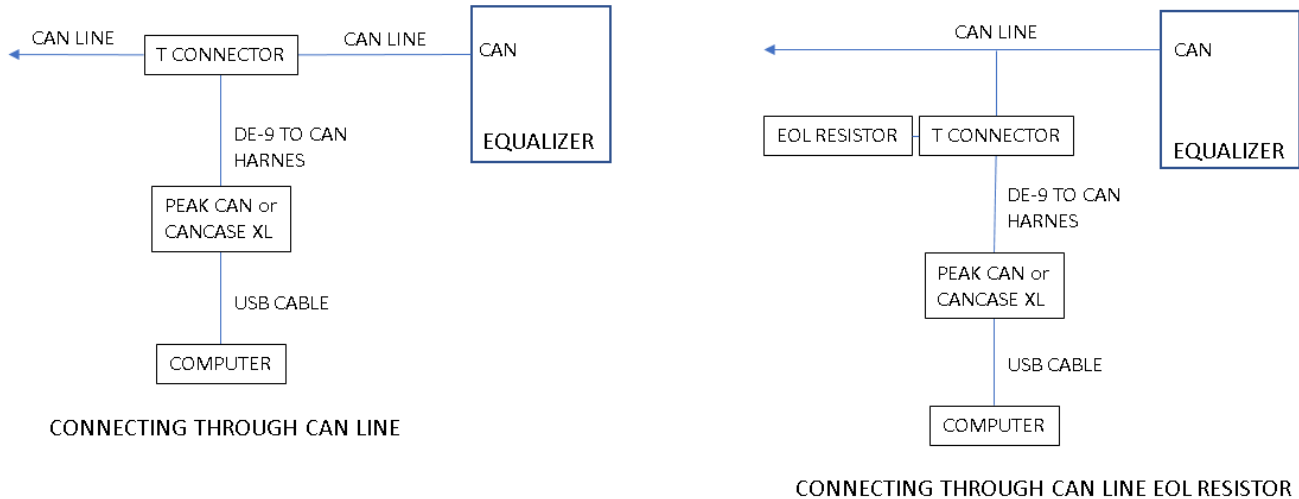

Figure 1: Connection diagram
- a. Connect the T connector in line with the bus harness. Ensure to mate the EOL resistor if this is the chosen point of connection. Refer to Figure 1 for the diagram, and Figure 2 for the required parts.